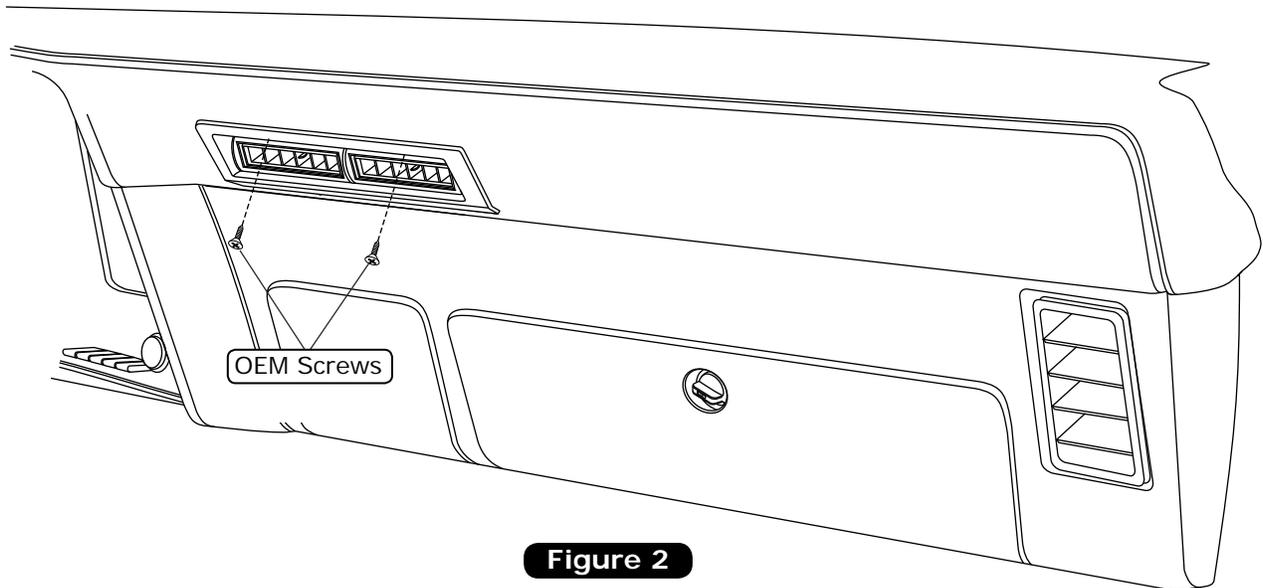

Figure 2
3. Install the center louver assembly into the dash using (2) OEM screws (See Figure 2, below).